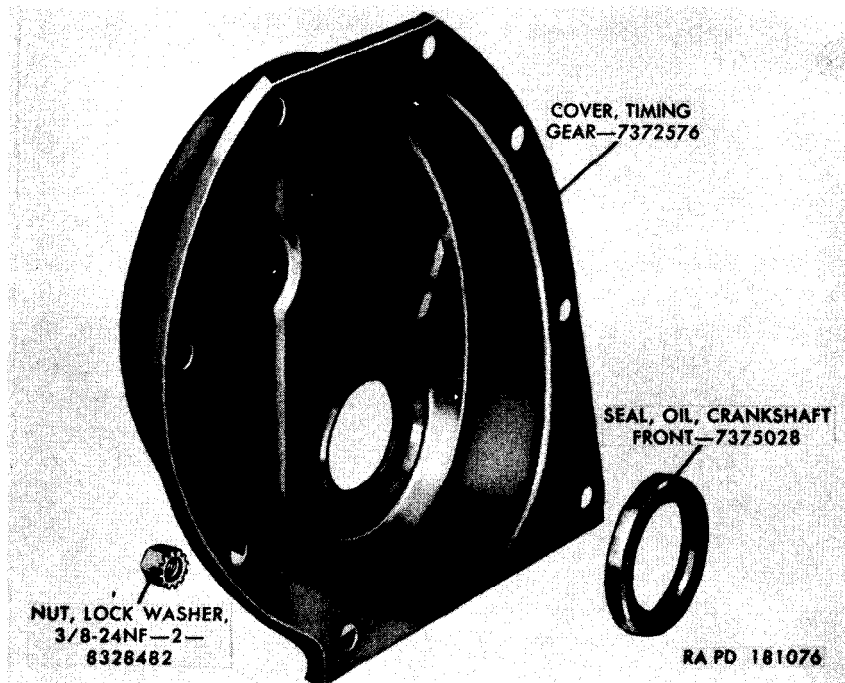

Figure 65. Timing gear cover—disassembled view.
(fig. 65)
85. Assembly (fig. 65)